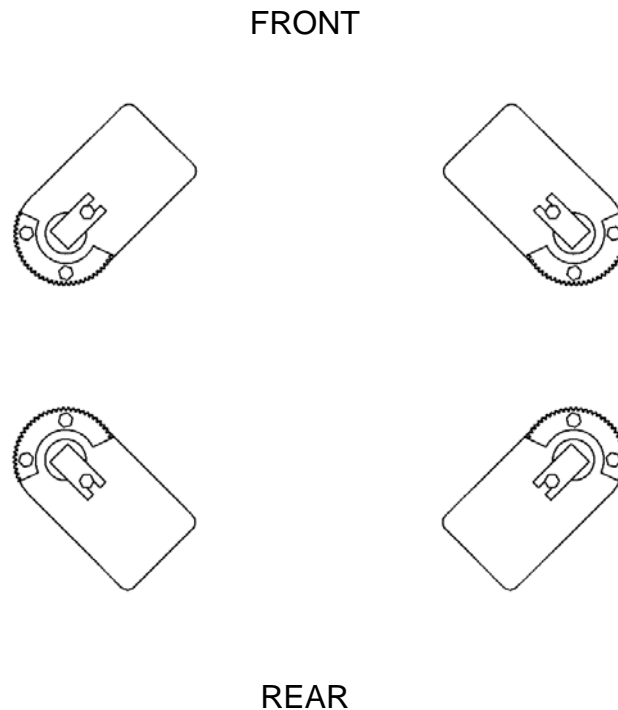

Figure 16 – Arm Installation
- Using two (2) 5/16"-18UNC x 1 ¼" LG. hex head bolts and two (2) 5/16" flatwashers, attach each arm restraint gear as shown in **Figure 16**.